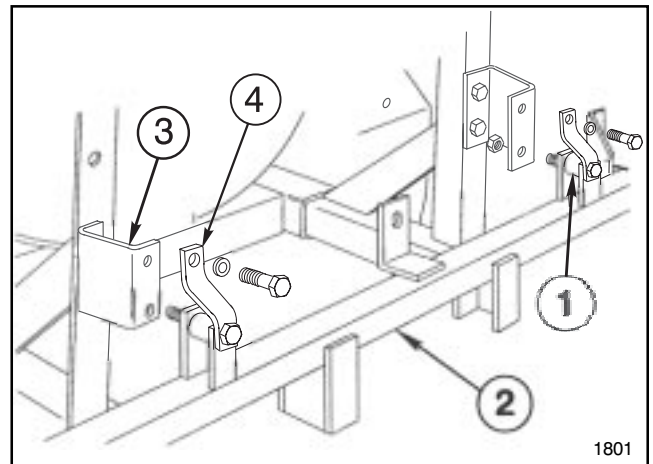

FIG. 5
7. Position a Spacer Tube between the lugs on each side of the Main Frame tube. Insert a 1/2" x 2-3/4" Grade 8 cap screw through the Boom Support Strap, lugs and spacers. Secure the Main Frame to the Boom Mounting Brackets with flange nuts. Torque to 105 ft lbs. (142 N-m) (See FIG. 5)